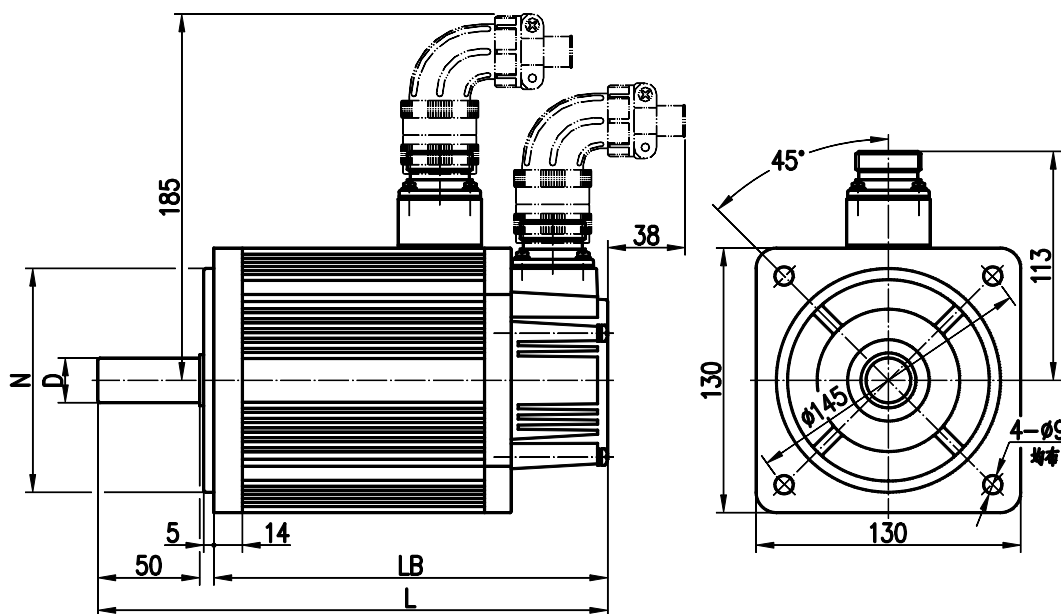

Fig. 2
6.2 See Fig.2 and Table 4 about the installation dimensions of 130SJT